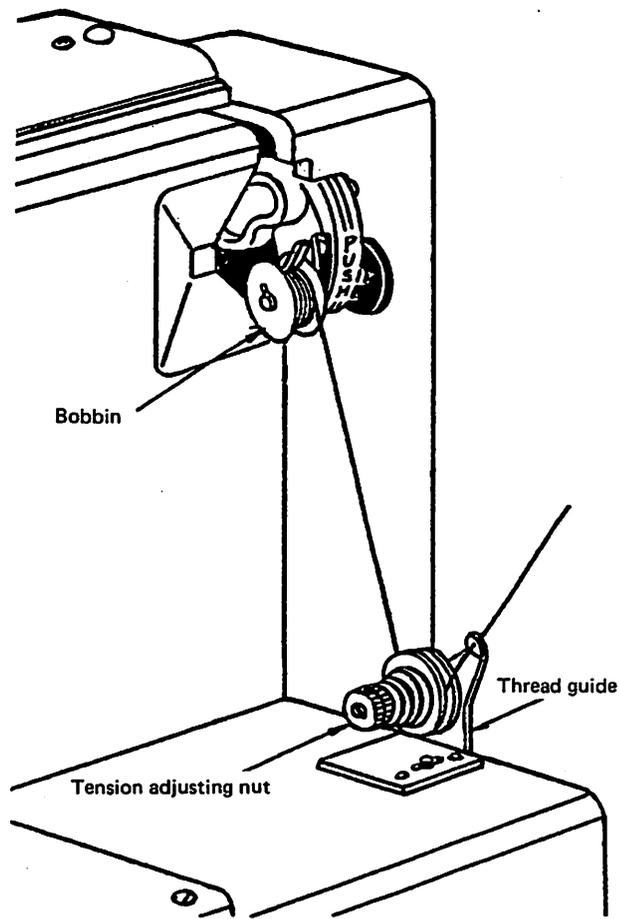

Fig. 9.9
- (1) Pass the thread drawn out from the cotton stand as shown in Fig. 9.9 and wind the thread end several turns on the bobbin.
- (2) Set the STOP/MOVE switch to "STOP" position and depress the START switch. (Refer to para. 5.8.)
- (3) When the thread is wound up, set the STOP/MOVE switch to "MOVE" position.
- (4) If the thread is wound up conically, move the thread guide toward smaller diameter of wound thread layers.
- (5) It is recommended that polyester thread or nylon thread is wound with low tension.